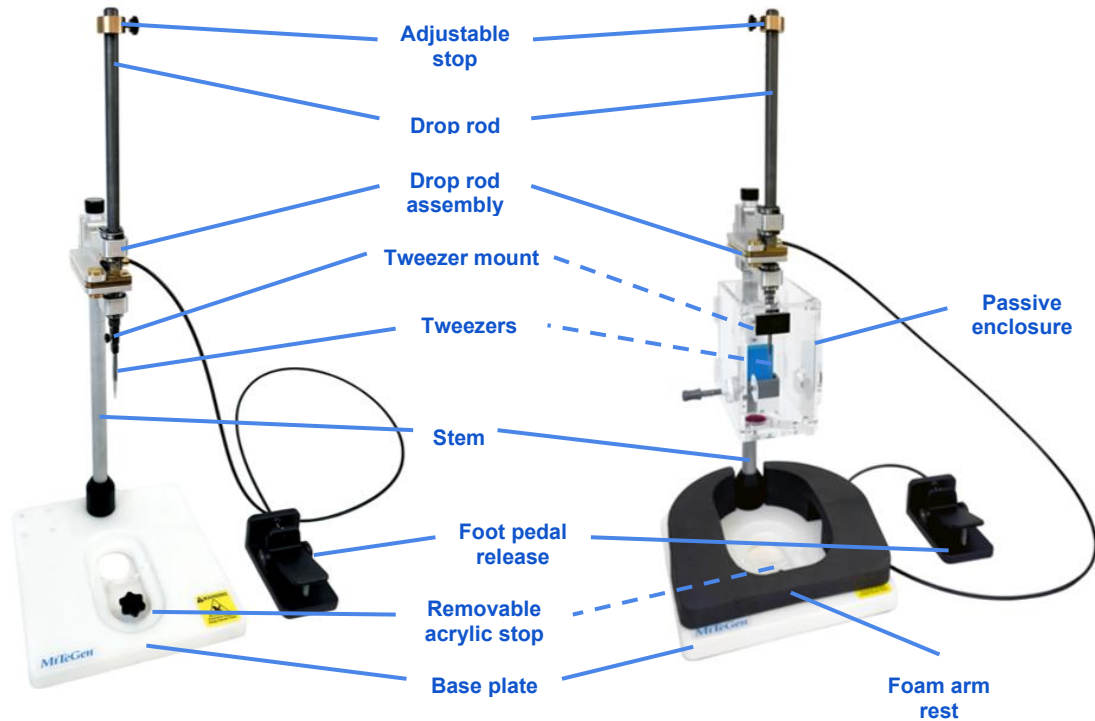
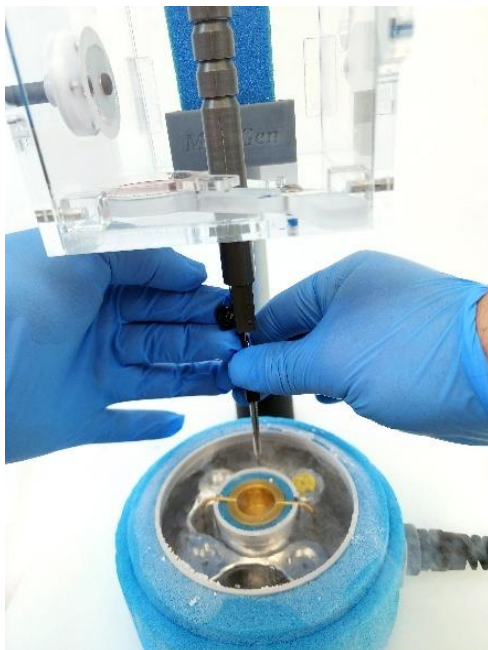

Figure 1: Overview schematics of Basic (left) and Standard (right) models
Figure 13: Removing tweezer-held grid from drop rod after liquid ethane plunge
- STEP 1.** Insert ethane Dewar/cryostat into base plate as shown in Figure 1 above, and then insert the acrylic stop to fixture in place
- STEP 14.** **Basic model:** Hold onto the tweezers, then loosen the thumb screw that is holding them in place, as shown in Figure 13. Once the tweezers are released from the tweezer mount, use one hand to carefully raise the drop rod up while the other hand holds the tweezers in place or lowers them slightly out of the tweezer mount. Make sure the grid remains below or very close to the liquid nitrogen surface for the duration of this process. **Note:** The release plate mechanism is calibrated to ensure that the drop rod can be held statically, for short periods of time, anywhere along its length regardless of groove location on the drop rod. If, after firm pressure is released from the foot pedal, it is observed that the drop rod is not being held in place, please use the contact info at the end of this manual to contact MiTeGen support. **Standard model:** Position the foam armrest as shown in Figure 1 above. Rest forearms on either side of the armrest such that hands can comfortably hold the tweezers and manipulate and move the tweezer mount. Once set, remove the tweezers from the tweezer mount as is described above for the **Basic model**.